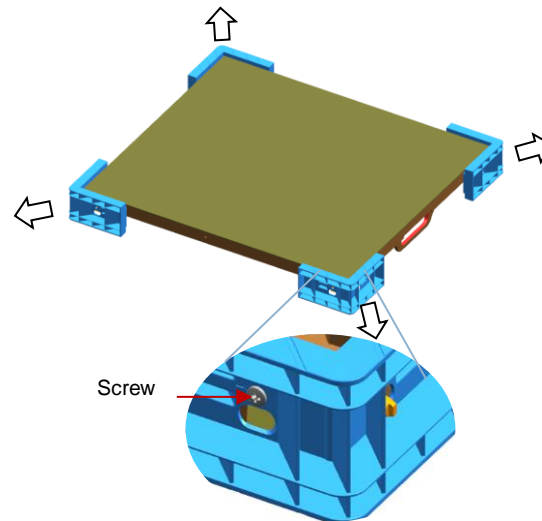

Fig.6 Cover Corner Removal
⑥ Unfasten the screws (total of four[4]) on the Cover Corner area to separate those screws. (Fig.6)